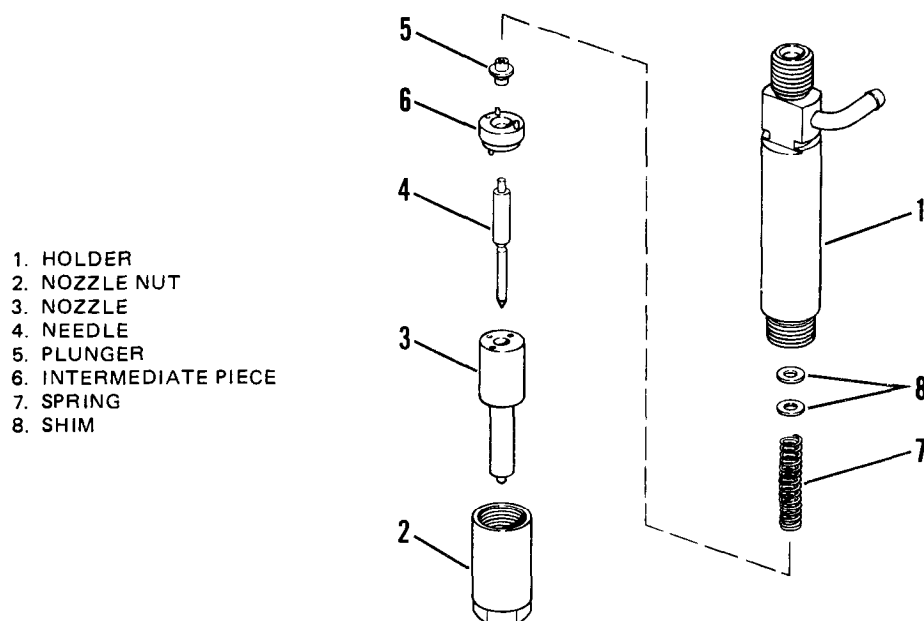

Figure 6-6. Fuel Injector.
- (d) Opening pressure can be adjusted by adding or removing shims, (8, Figure 6-6). Adding shims increases opening pressure, removing shims decreases the opening pressure. Refer steps d. and e. for Disassembly and Assembly procedures.
(4) Test for leakage as follows:
- (1) Clamp the nozzle holder (1, Figure 6-6) in a vise. Use a wrench to remove nozzle nut (2) approximately 1/4 of a turn.
- (1) Check nozzle needle (4, Figure 6-6) and nozzle (3) by lifting nozzle needle (4) halfway out of nozzle (3) and allowing it to drop. Needle must slide slowly and smoothly into nozzle under its own weight without sticking. If needle sticks, clean needle and nozzle in diesel fuel and repeat test. Replace both nozzle and needle if needle continues to stick.
- (2) Remove any carbon residue from nozzle (3) tip and nozzle nut (2).
- (1) Place nozzle (3, Figure 6-6) with nozzle needle (4) into nut (2).
- (2) Place shims (8) into nozzle holder (1).
- (3) Place intermediate piece (6) onto nozzle (3). Make sure that pins in intermediate piece (6) fit into holes in nozzle (3).
- (4) Install plunger (5) and spring (7).
- (5) Screw nozzle nut (2) onto nozzle holder (1). Tighten nut (2) to 30 ft lbs (40 N.m).